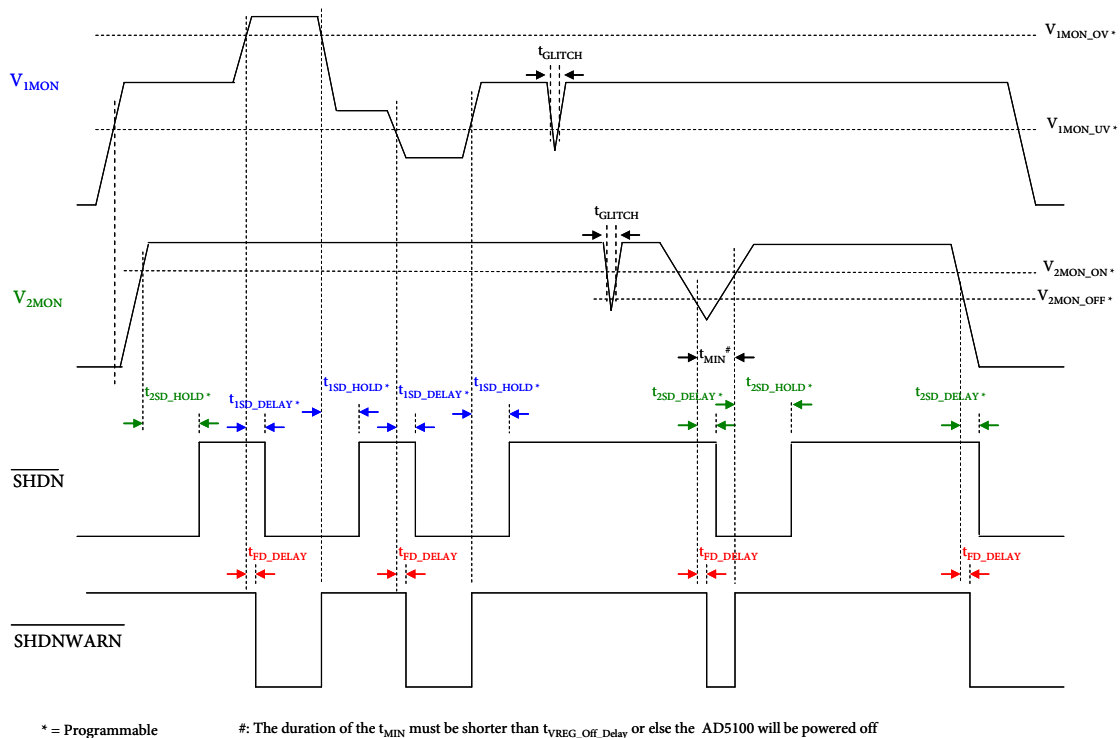

Figure 5.  $V_{1\text{MON}}$  and  $V_{2\text{MON}}$  Shutdown Timing Diagrams (Note  $\overline{\text{RESET}}$  follows  $\overline{\text{SHDN}}$ ).
depending on how long the shutdown programmed-delay is set relative to the  $\overline{\text{SHDNWARN}}$  propagation delay, this feature attempts to allow the system to finish any critical house keeping tasks before shutting down the external device. The  $V_{1\text{MON}}$ , shutdown, and shutdown warning timing diagrams are shown in Figure 5. The ranges of OV and UV Thresholds are shown in Table 5a and the programming codes of the selected-thresholds are found in Table 5b. The defaulted OV threshold is 18.00V and UV threshold is 8.43V. Similarly, the ranges of shutdown hold and delay times are shown in Table 6a and the programming codes of the selected-timings are found in Table 6b. The defaulted shutdown hold time is 200ms delay time is 1200ms. The voltage at  $V_{1\text{MON}}$  provides the power for the AD5100 but valid signal at  $V_{2\text{MON}}$  must be present before the internal  $V_{\text{REG}}$  starts operation. Details will be explained in the power section.
By default,  $V_{2MON}$  is level-sensitive that the ON and OFF thresholds are both monitored. The ON threshold chosen must be greater than the OFF threshold. When the shutdown function is triggered by the input reaching  $V_{2MON\_OFF}$  threshold, such fault condition will be temporarily recorded in the Fault Detection Register. The  $SHDNWARN$  output will transition low for signaling before shutdown occurs. The occurrence of shutdown is depending on how long the shutdown programmed-delay is set relative to the  $SHDNWARN$  propagation delay, this feature attempts to allow the system to finish any critical house keeping tasks before shutting down the external device. The  $V_{2MON}$ , shutdown, and shutdown warning pins timing diagrams are also shown in Figure 5. The ranges of ON and OFF Thresholds are shown in Tables 5a and the programming codes of the selected-thresholds are found in Table 5b. The defaulted ON threshold is 7.47V and OFF threshold is 6.95V. Similarly, the ranges of shutdown hold and delay times are shown in Table 6a and the programming codes of the selected-timings are found in Table 6b. The defaulted shutdown hold time is 10ms and delay time is 100ms.
2. When  $V_{1\text{MON}}$  goes over or under the threshold, Figure 5.
3. When  $V_{2\text{MON}}$  is below the turn-on threshold during the rising edge or the turn-off threshold during the falling edge in the default level sensitive mode, Figure 5.
4. When  $\overline{\text{SHDN}}$  output is asserted, Figures 5 and 13.